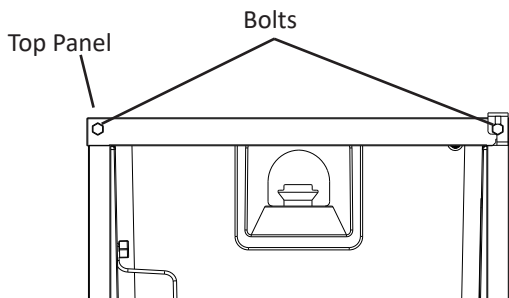

Fig. 11
- a) Contact your local distributor to purchase a Perlick hinge kit. The kit contains "hinge (A)-left."
- b) Remove the 2 bolts securing the top panel, then lift it off. See Fig. 11.